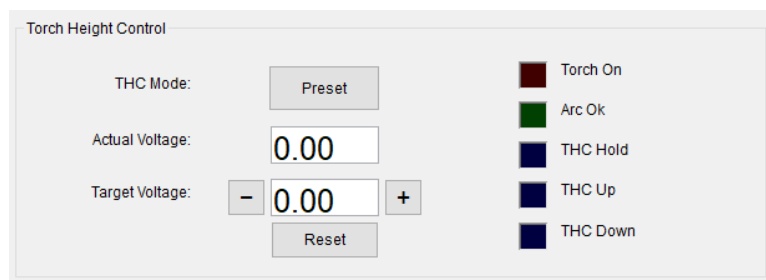

Fig 81 Torch Height Control pane - THC Mode - Preset
1.2 Preset (Fig 81): The target voltage is set using the value in the G-Code file. The Target voltage can be adjusted using +/- and reset keys, to adjust the cut height whilst cutting.